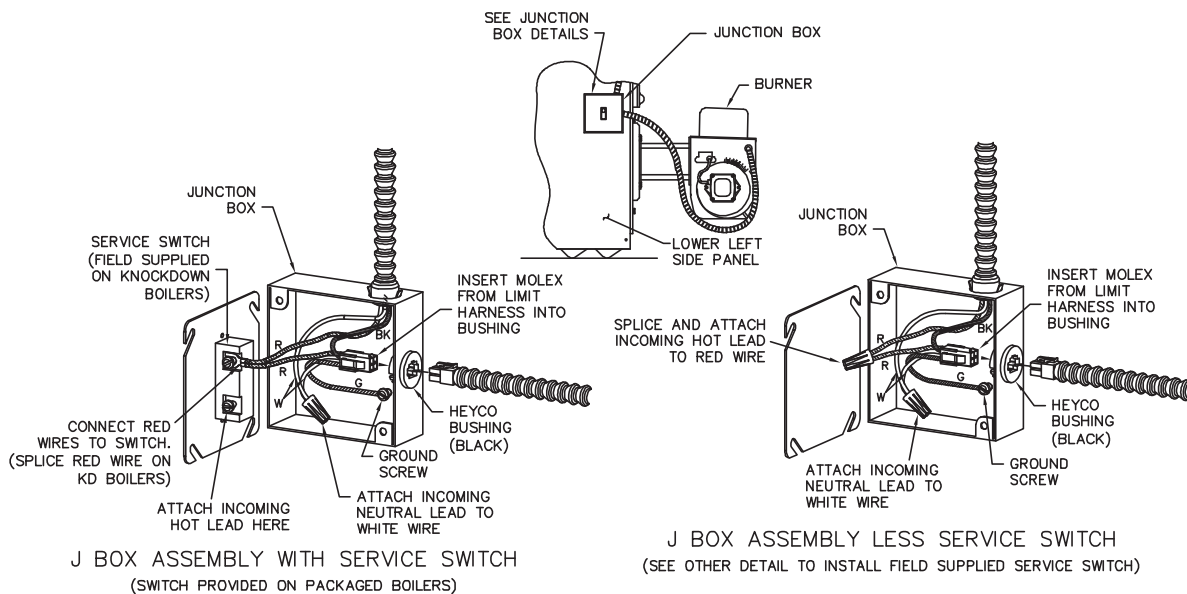

Figure 4.1: Junction Box Wiring
2. Install junction box, limit harness, and Heyco bushing, each located in the trim carton. See Figure 4.1. Mount junction box to the holes in the left side of jacket with (2) #10 x 1/2" sheet metal screws. Attach Heyco bushing to 7/8" knockout in front side of junction box. Connect limit harness to 7/8" knockout on top of junction box and insert limit harness Molex connector into Heyco bushing until it snaps firmly in place.